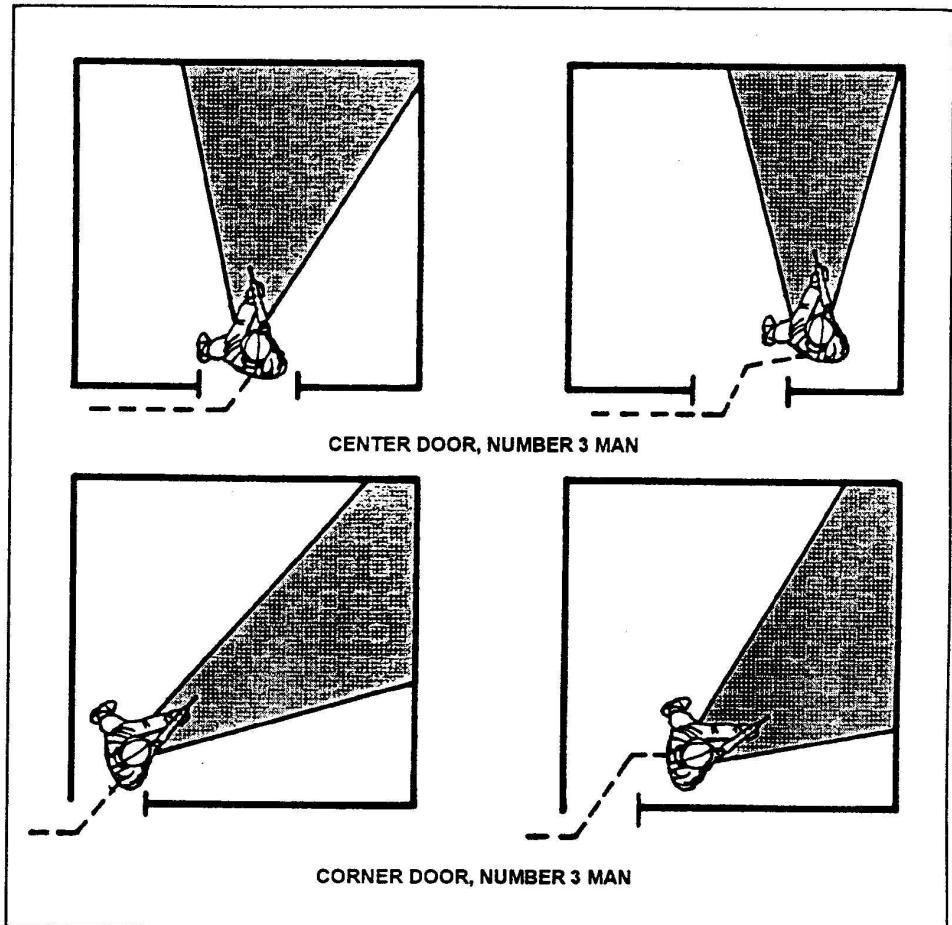

Figure K-7. Path of #3 man, center door and corner door.
(3) The number 3 man (team leader) buttonhooks inside the room at least 1 meter from the door, but between the number 1 man and the door (Figure K-7).